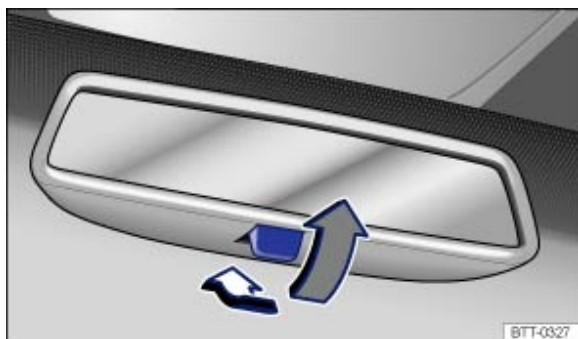

Fig. 99 Manual anti-dazzle interior mirror
- Pull the lever to the back to select the anti-dazzle function → *Fig. 99*.
The automatic anti-dazzle function is switched on and off using the switch in the interior mirror → *Fig. 99* . The indicator lamp → *Fig. 99*  will light up when the automatic anti-dazzle function is switched on.
When the ignition is switched on, the sensor → *Fig. 99*  will, depending on the surrounding light levels and the intensity of the headlights *automatically* darken the interior mirror when a vehicle approaches from the rear with headlights on.